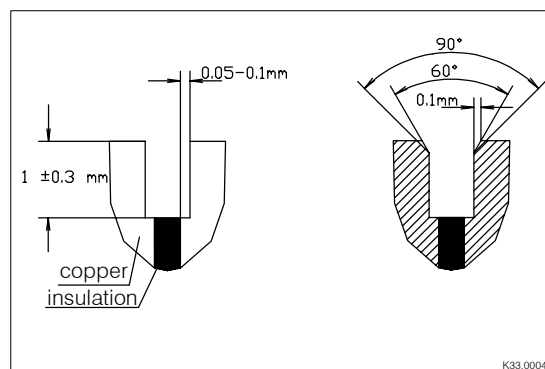

Fig. 5: Milling of the bar insulation at the collector
- If necessary, remove insulation between the collector bars as shown in figure 5: